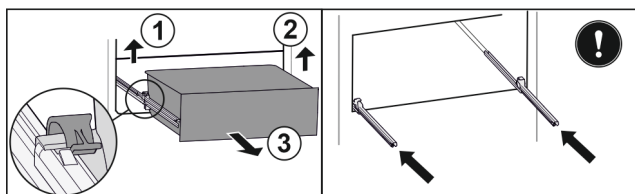

Fig. 167
- Lift left clamp and simultaneously pull drawer forwards on the left. Fig. 167 (1)
- Lift right clamp and simultaneously pull drawer forwards on the right. Fig. 167 (2)
- Remove drawer to the front. Fig. 167 (3)